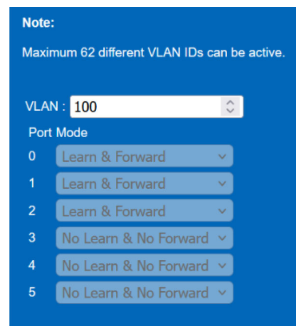
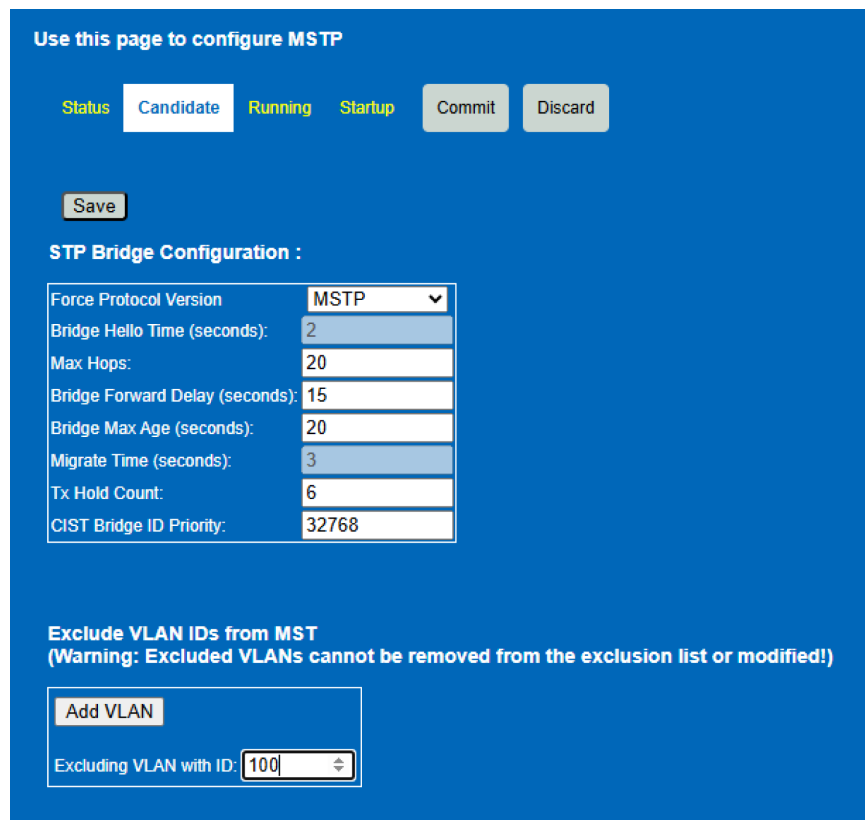

Figure 170. VLAN Table Configuration
Figure 171. MSTP VLAN Exclusion Configuration
For both devices, configure the VLAN mode in the **VLAN Table** page. Port 0, Port 1, and Port 2 are set to learn and forward mode for the VID of interest (100) as shown in Figure 170. The user must also review if changes are required in the MSTP configuration to exclude FRER VLAN from the CIST, see Figure 171. In this case, exclude VLAN ID from MSTP.